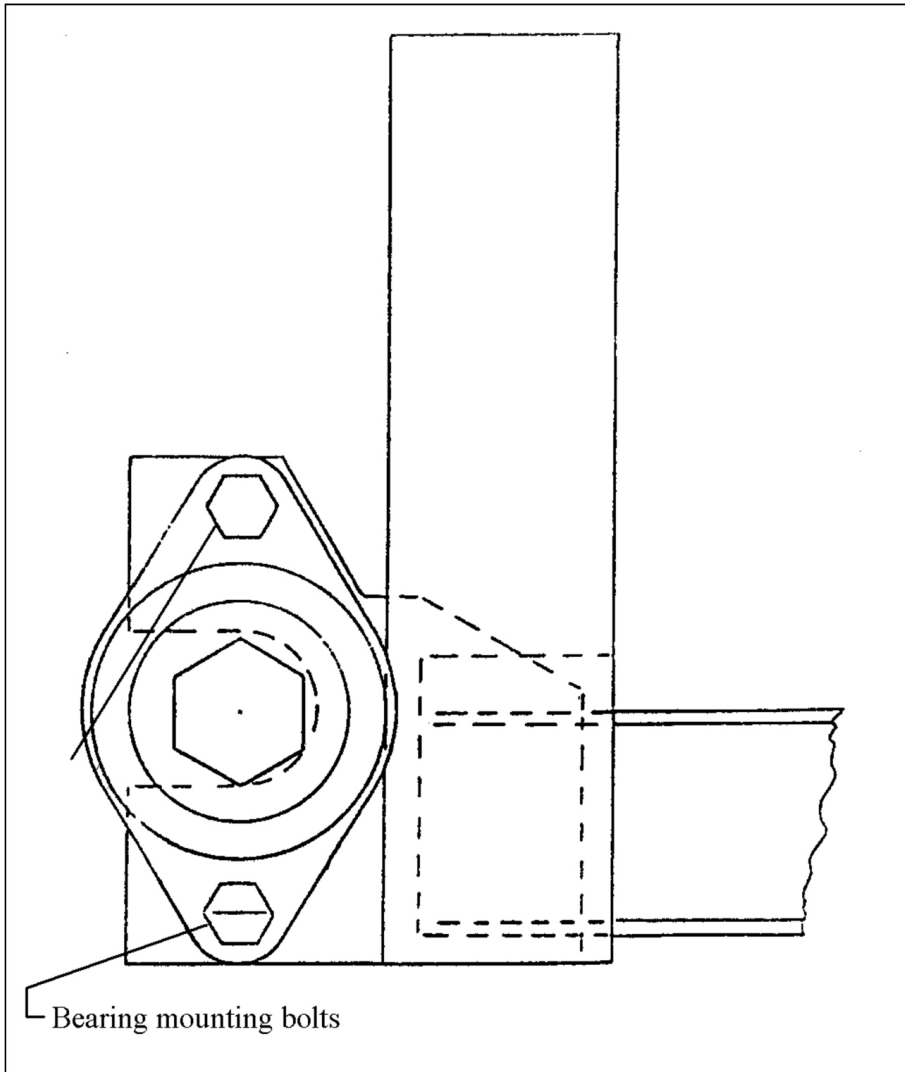

Figure 5: Side of frame showing bearing mounting bolts
1. Remove the bearing mounting bolts on the side of the black frame that holds the spool axle in place (see Figure 5). The disc spool is now free from the picker frame.